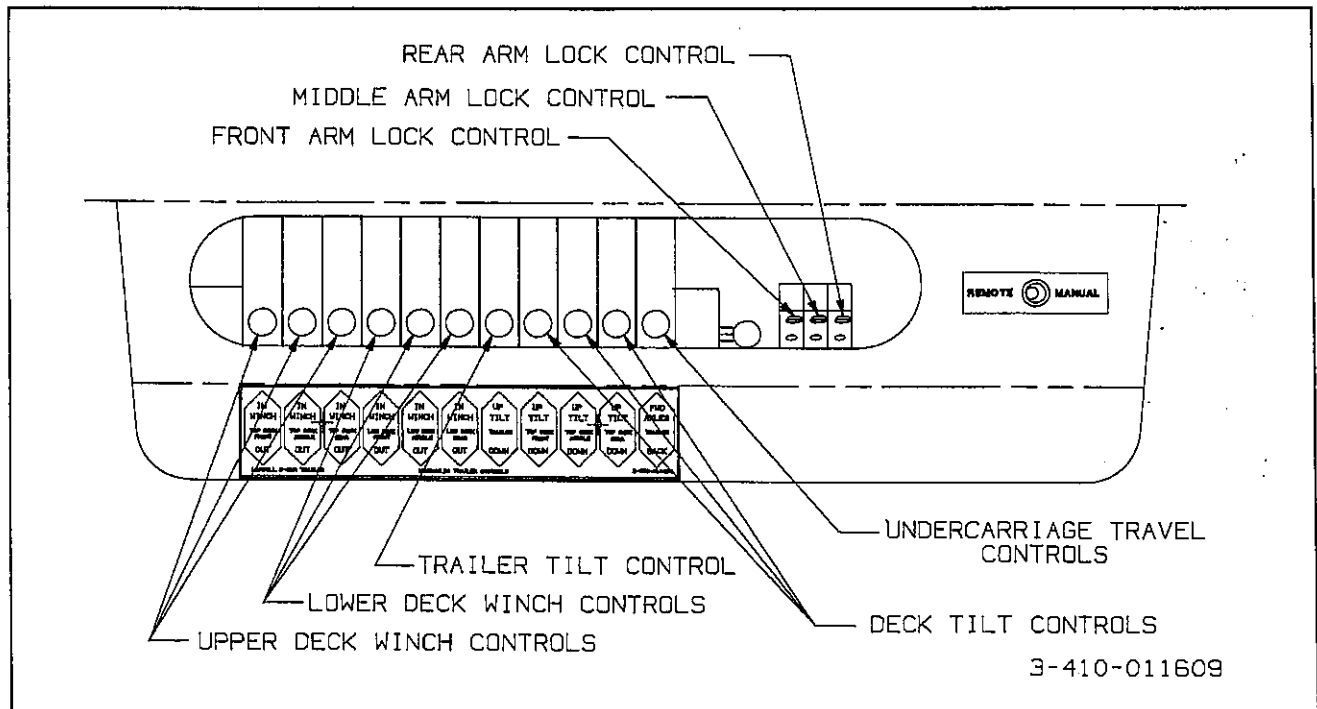
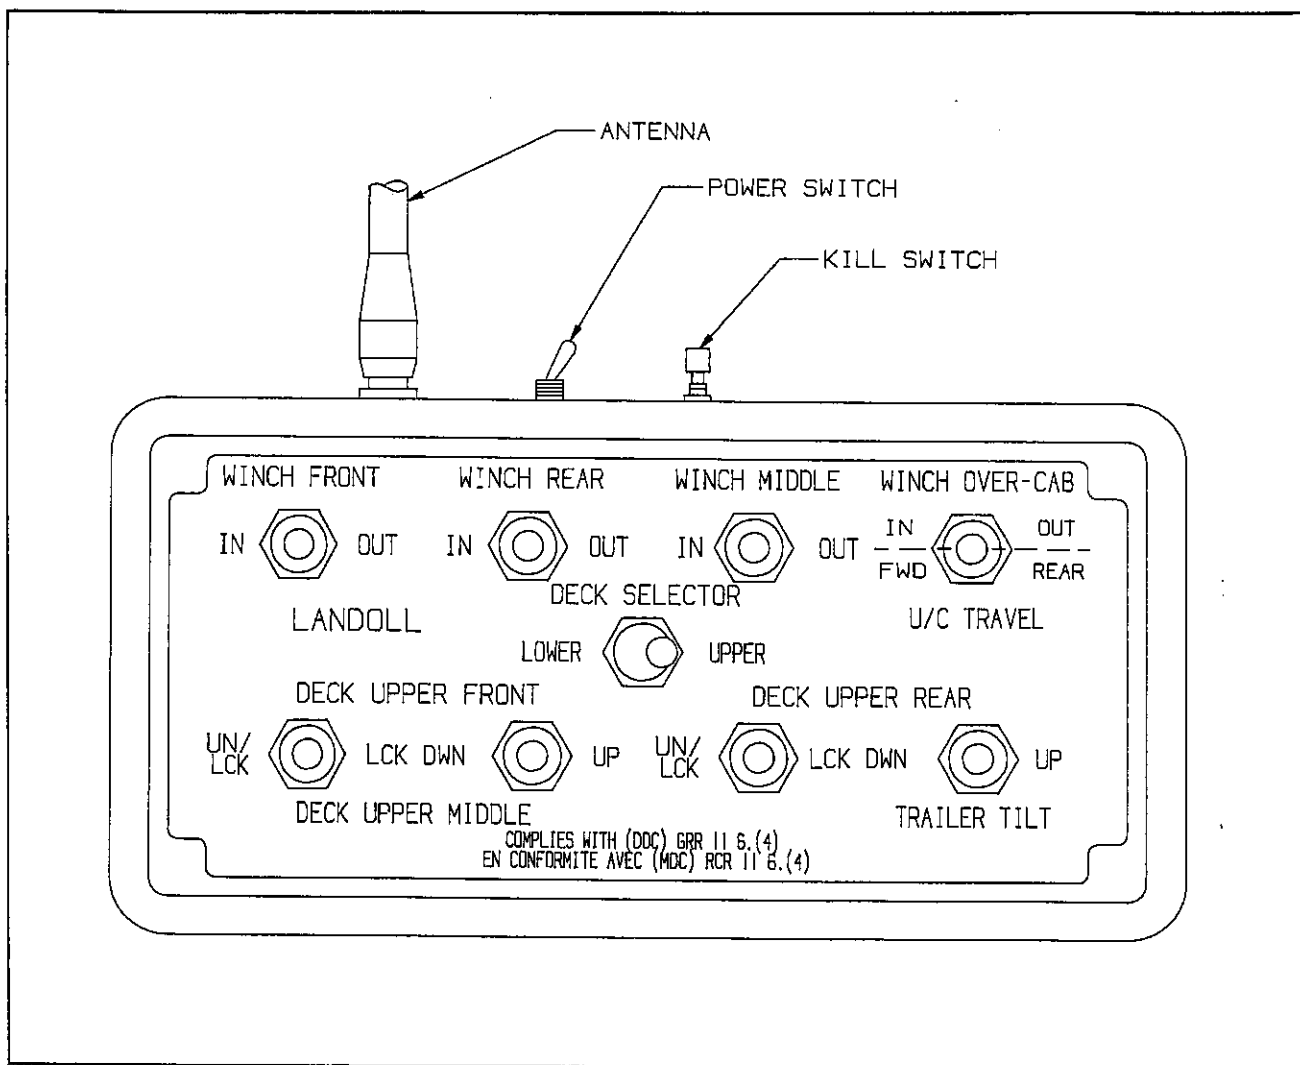

Figure 3-2 Hydraulic Control Levers
Figure 3-4 Remote Control
**3-1.2** The king pin plate should be the same height as, or slightly lower than, the latch area of the fifth wheel plate of the tractor. If necessary, connect the tractor hydraulic lines. Use the **TILT TRAILER** lever (see **Figure 3-2**) to raise or lower the kingpin plate sufficiently to allow proper coupling. Drain all air and moisture from the tractor air brake system in accordance with the tractor manufacturer's instructions.
**3-4.1** While hydraulic power is operating, raise the front end of the semitrailer with the **TILT TRAILER** lever (see Figure 3-2) until weight is off the landing gear. Raise landing gear. Secure each leg with a park stand retaining pin in fully retracted position before transporting.
3-9.2 The WINCH hydraulic levers (see Figure 3-2) are located on the hydraulic control panel or the remote control (see Figure 3-4) if present. It is a three position control:
**3-10.1** The power switch is located on the top of the box and must be turned on for the the remote control to operate. (See Figure 3-4.)
- a. Hold the Lock Control in the unlock position (see Figure 3-2) and joggle the TILT control for that arm until it unlocks.